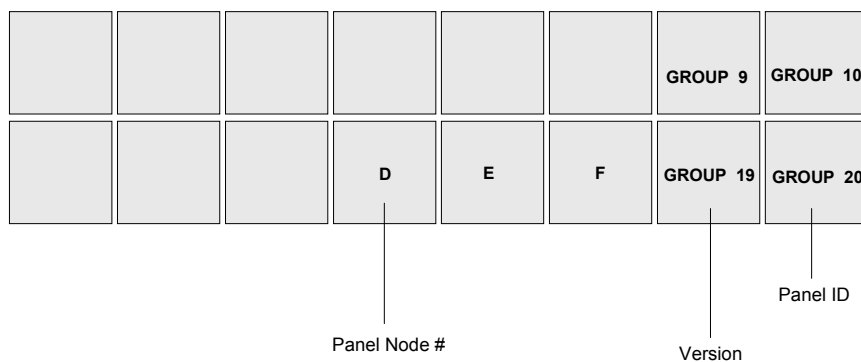

Figure 3-20. Keypad Buttons used for Miscellaneous Panel Modes
2. While holding, press one of the first seven keypad buttons, as shown in Figure 3-20. Button **1** is the brightest setting; button **7** is the dimmest setting.
2. While holding, press the **GRP 19** button as shown in Figure 3-20. In the **Source Display**, the panel's software version appears.
2. While holding, press the **GRP 20** button as shown in Figure 3-20. In the **Source Display**, the panel's ID appears.